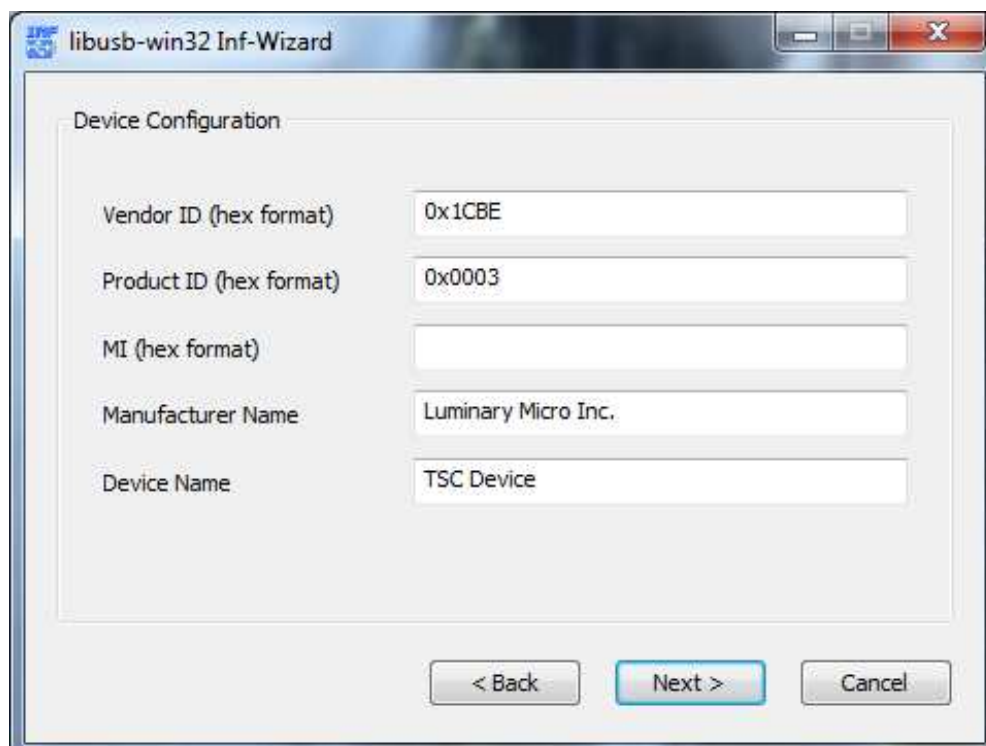

Figure 8. Inf-Wizard Device Configuration
- (g) Click *Next*, as shown in Figure 8.